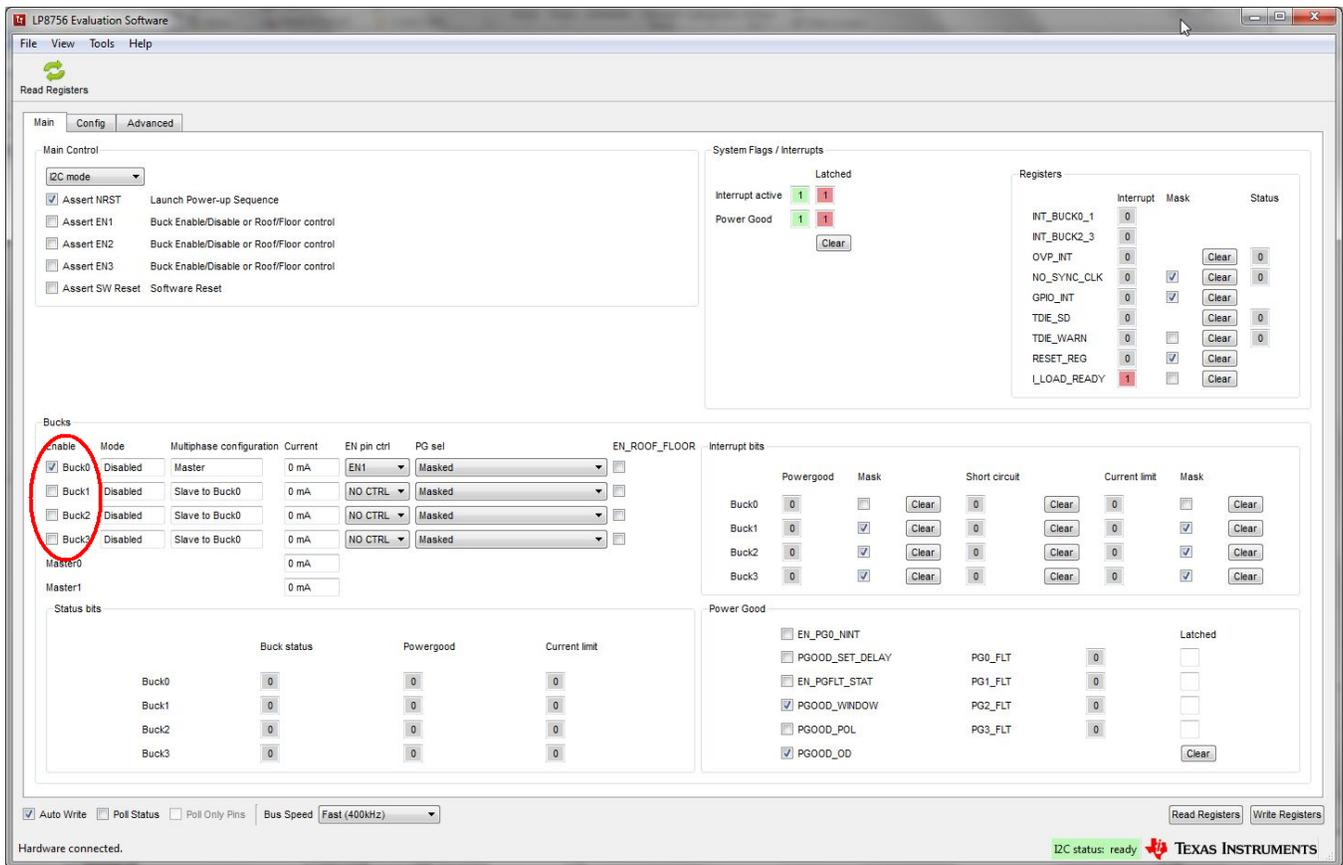

Figure 9. BUCK0 Enabled
3. Check that Buck0 is enabled (see Figure 9).